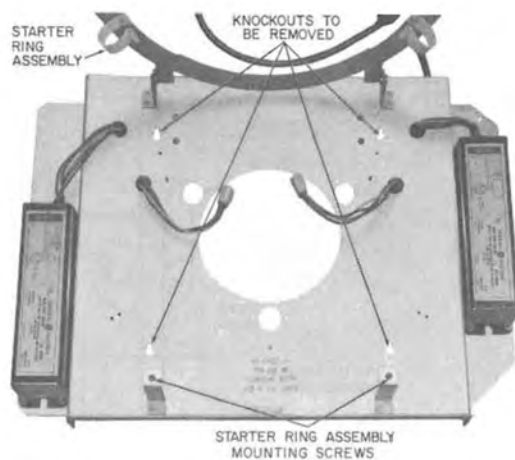

Fig. 11—KS-19207 Light Fixture With Starter Ring Assembly in Raised Position
- (h) Position KS-19207 light fixture in a suitable work area, loosen the two starter ring assembly mounting screws, and raise the starter ring assembly as shown (Fig. 11).
(i) Remove the knockouts (Fig. 11) as shown in Fig. 12.